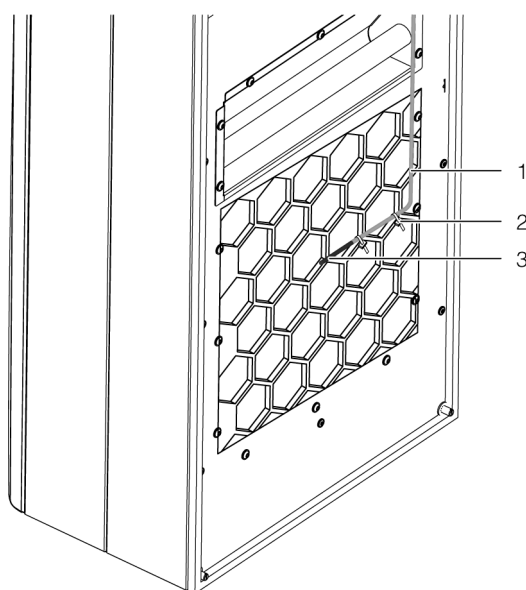

Fig. 23: Temperature sensor in front of cold air outlet (example illustration)
- Attach the temperature sensor in front of the cold air outlet from the cooling unit, in the centre (fig. 23).